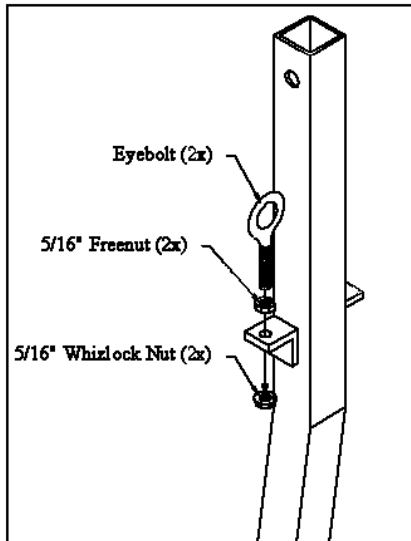

Fig. 4
4. Attach eyebolts (12) to vertical support upper brackets, trapping brackets between 5/16" hexnut and 5/16" whizlock nut. Rotate eyebolts so eyelets face from front to back. **Fig. 4**